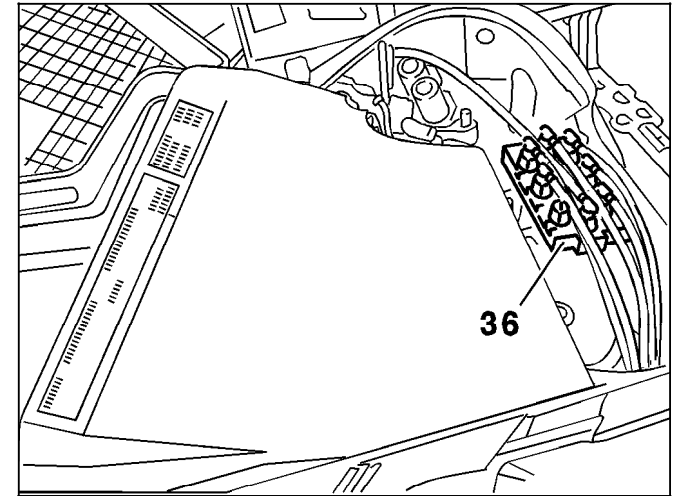

Figure 1
1. Disconnect all vacuum lines at vacuum distributor block (36), Figure 1.